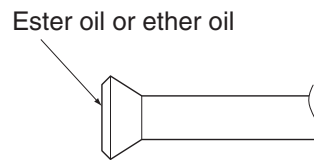

Fig. 13
- When connecting the flare nut, coat the flare section (inside) with ester oil or ether oil, rotate three or four times first, then screw in. **(Refer to Fig. 13)**